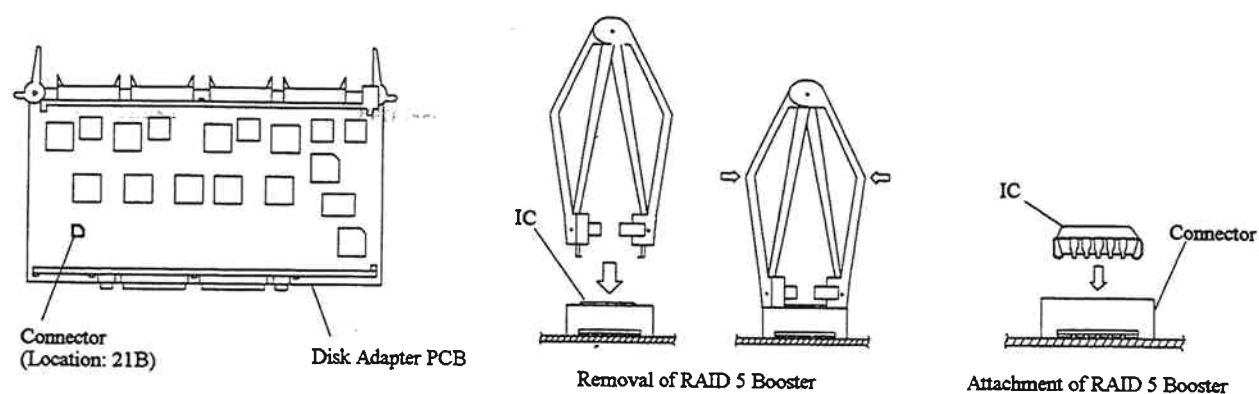

Fig. 3.7.4.3-7 Transfer of RAID 5 Booster
- a. Insert the PCBs to the correct locations in the Logic Box. Refer to Table 3.7.4.3-4 and Fig. 3.7.4.3-8.